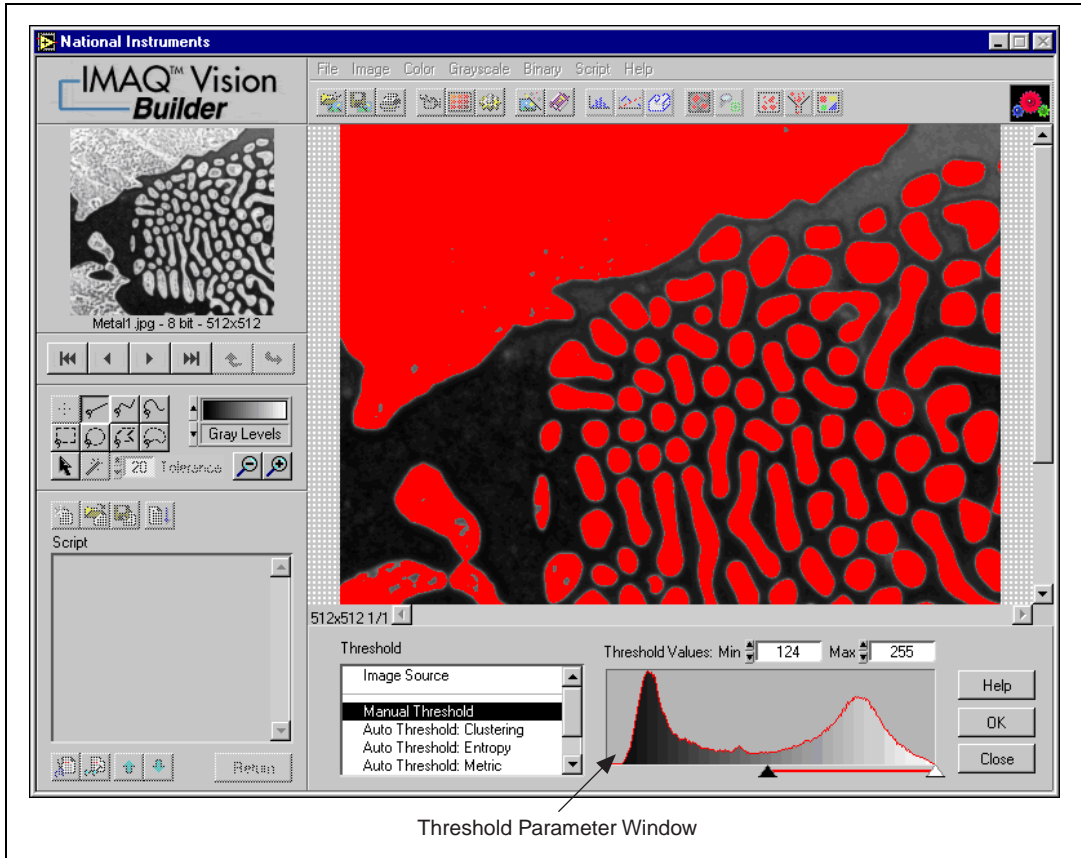

Figure 2-5. Thresholding an Image
function. See Figure 2-5 to view an example of the threshold Parameter window.
7. Select **Grayscale»Threshold**. The Threshold parameter window appears in the lower right corner of the IMAQ Vision Builder window, as shown in Figure 2-5.